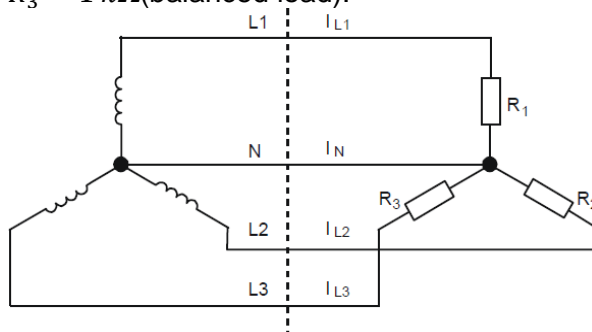

Figure 13
- 1) Connect the circuit as shown in Figure 13. Set the three load resistor to 1 k Ω each $R_1 = R_2 = R_3 = 1\text{ k}\Omega$ (balanced load).